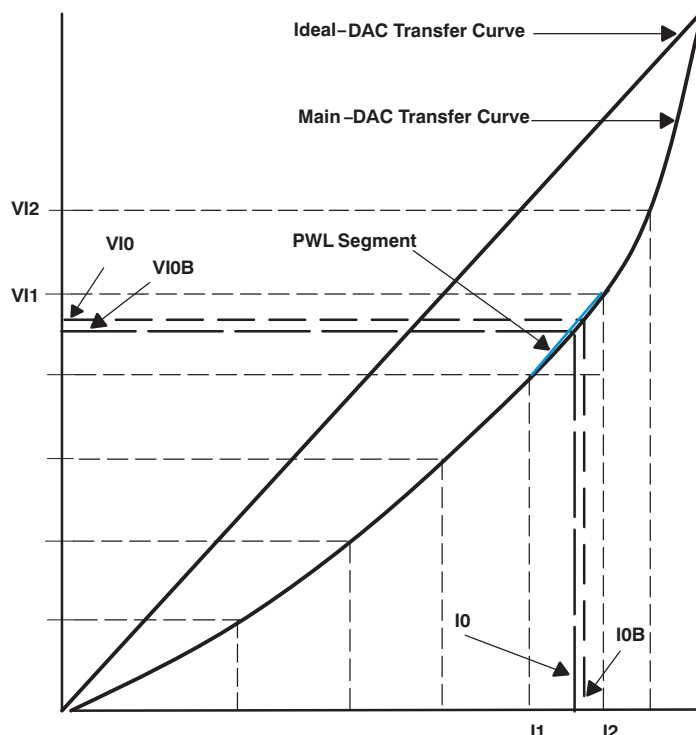

Figure 21. The Geometry Behind the PWL Calibration
- The six LSBs of the user data D0 with two variables I1 and I2 are used for computing Equation 1 (see Figure 21).